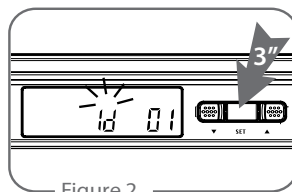

Figure 2
- (1) Press “Set” button ❹ for 3 seconds, LCD Panel will start flashing.
- (2) Press “Set” twice to enter “ID Code” setting window. (Figure 2)
- (3) Press “▲Up” ❷ or “▼Down” ❸ button to select a distinct ID code from “id 0” to “id 99”
- (4) After setting, press “Set” again to save the settings.